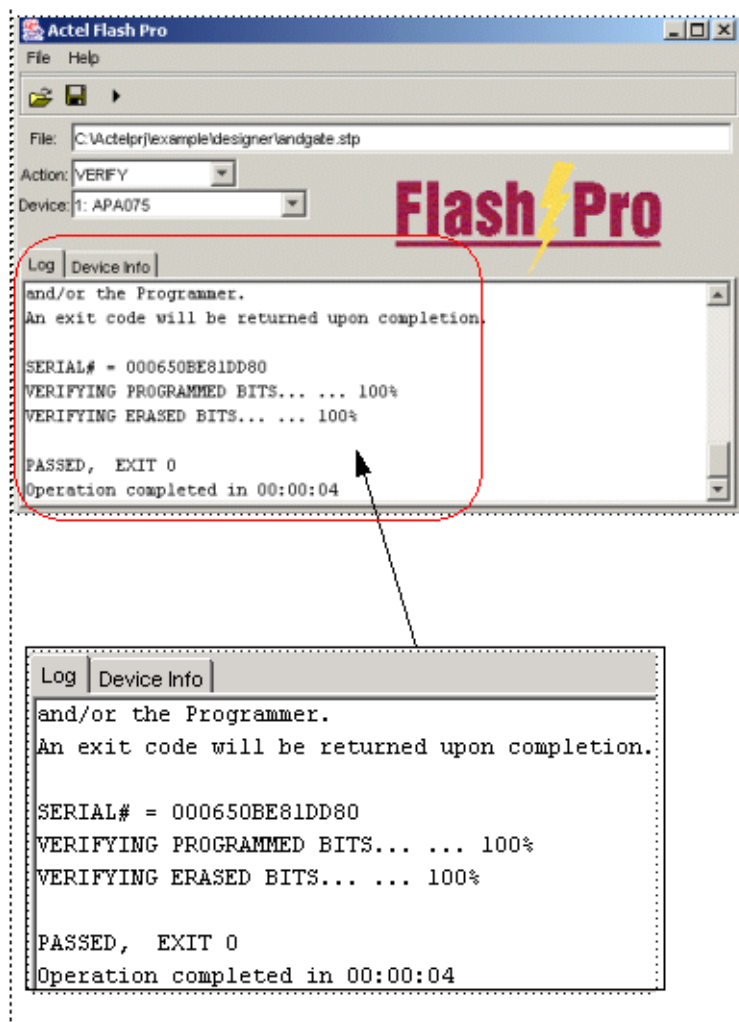

Figure 5-35. Successful Verification
4. Click *Execute* to start the verification process. A successful verification results in Exit 0, as shown in Figure 5-35. If the STPL file is different from the file used for programming, Exit 11 appears in the Log window.